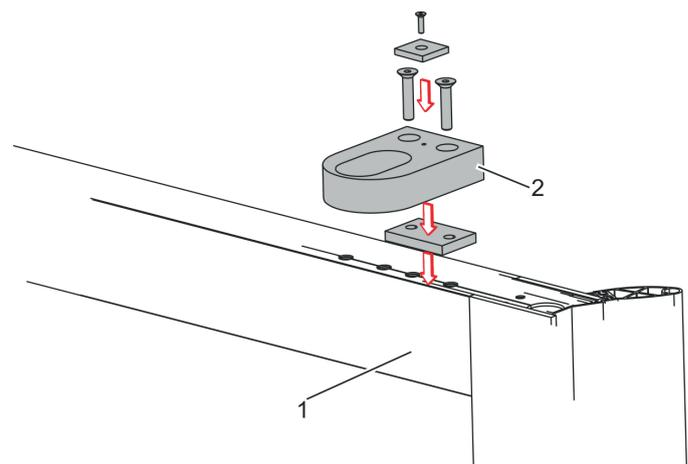

Fig. 116 Fitting locking plate
1. Fix locking plate (Fig. 116/2) on upper edge of wing (Fig. 116/1), as shown in Fig. 116.
3. Fit other locking plates as necessary (Fig. 116 Fitting locking plate, p. 71).